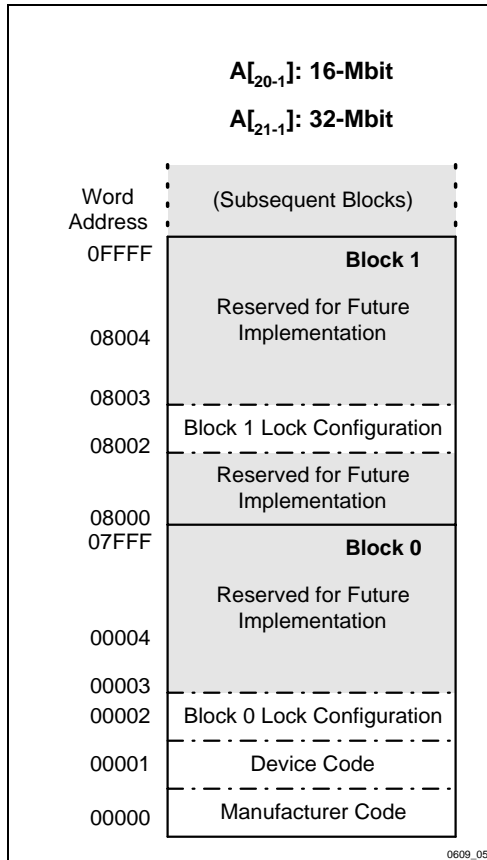

Figure 5. Device Identifier Code Memory Map
-002	<p>Added commercial temperature information throughout the document. Updated address in Figure 5. Added descriptive information for CFI query to Section 4.2.5, System Interface Information Updated addresses and added descriptive information in Table 9 and Table 10. Corrected documentation errors in Table 15 and Table 16. Updated Figure 6. Modified decision diamond for checking counter. Corrected documentation errors in Figure 11 and Figure 12. Updated Table 19 to include commercial and extended temperature range specifications. Updated note 4 in Table 19 for clarification. Updated Table 20 to show 16 Mb/32 Mb specifications more clear and corrected documentation error. Corrected documentation error in Figure 17 and Table 23. Updated package designators and order codes in Appendix A.</p>
The read-identifier codes operation outputs the manufacturer code, device code, and block lock configuration codes for each block configuration (see Figure 5). Using the manufacturer and device codes, the system software can automatically match the device with its proper algorithms. The block-lock configuration codes identify each block's lock-bit setting.